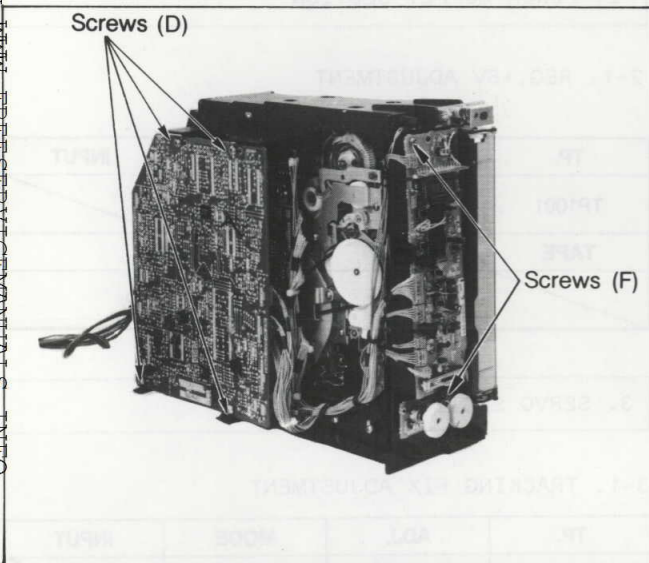

Figure D5
Unscrew 4 screws (F) as shown in Figure D5, a screw (K) on the chassis as shown in Figure D7, and remove the operation C.B.A.